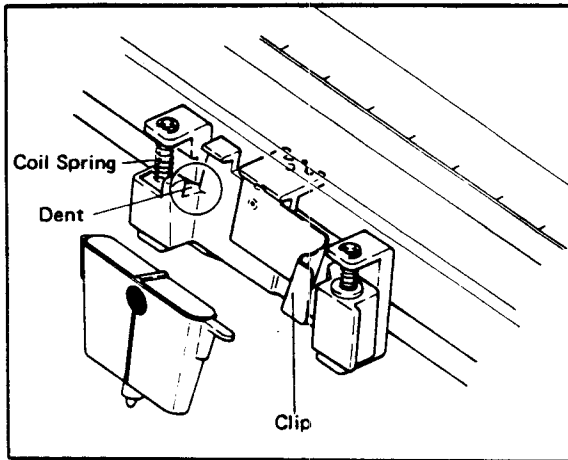

Figure 3-3.
- (2) Remove the pen cap and hold the pen cartridge with the colored line forward (see Figure 3-3). Be careful not to lose the removed pen cap. Install as follows: insert the left side boss of the cartridge into the dent, then press the right side edge into the clip.